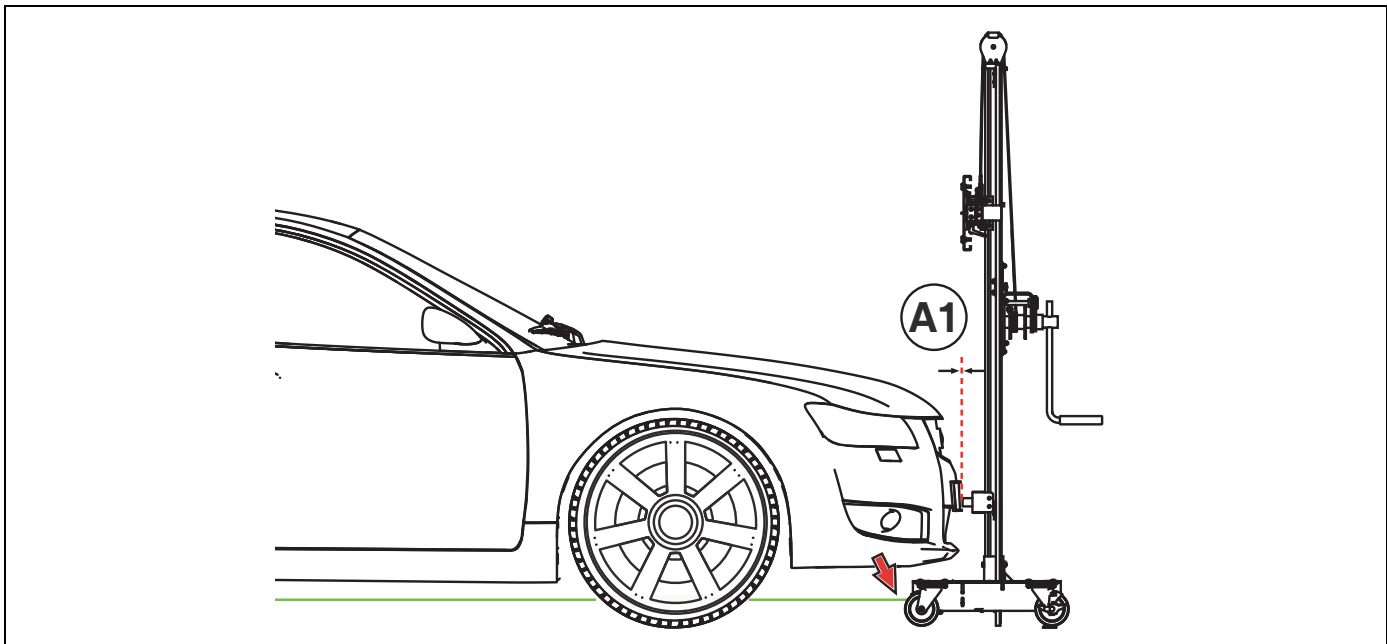

Figure 4-25
7. Simultaneously move the TS100 stand so that the TS20 zero stop contacts the forward most surface, and is in alignment with the AS20 laser (vehicle centerline) (Figure 4-25).